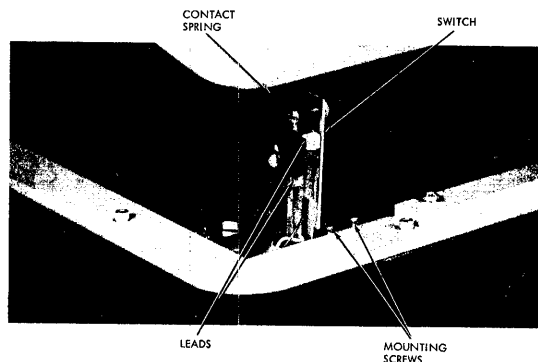

Figure 6-8. Stacker Full Switch Adjustment
- c. Using a small Phillips screwdriver, LOOSEN the two screws retaining the stacker full switch bracket, figure 6-8.